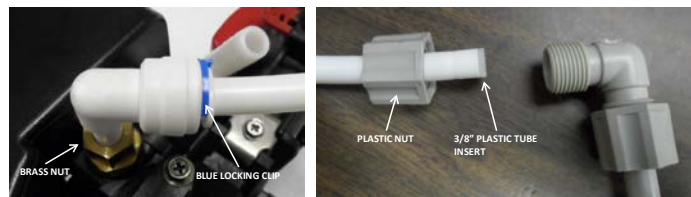

Figure 7. Brine Line Connections View
- 6) Connect the brine line from the valve to the air check / safety elbow as per figure 7. Double check to make sure all connections are assembled correctly and the brass and plastic nuts are tight and secure to prevent leaks.